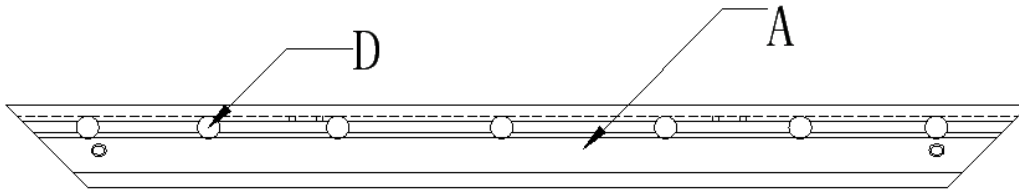

Fig. 1
1. Insert the metal round-shaped nails (D) through all four frames (A) as shown on Fig 1.